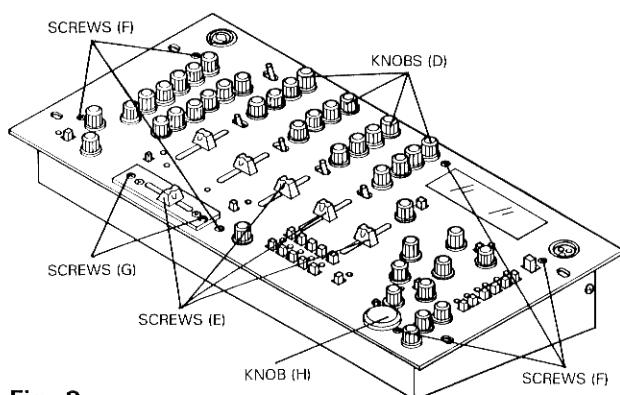

Fig. 2
- (a) Remove 42 knobs (D). (Fig.2)
- (b) Remove 6 knobs (E). (Fig.2)
- (c) Remove 6 socket screws (F). (Fig.2)
- (d) Remove 2 socket screws (G). (Fig.2)
- (e) Remove 1 knob(H). (Fig.2)